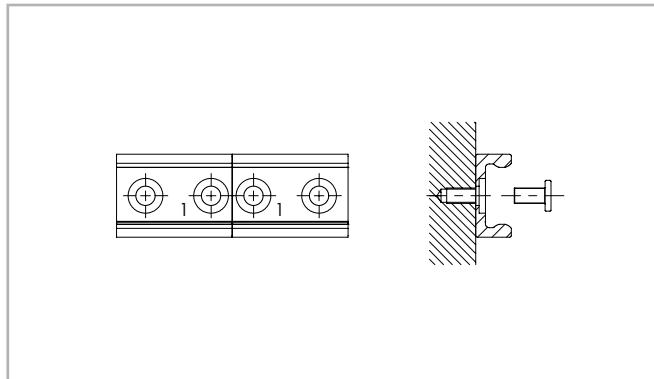

Fig. 80
- (1) Fix the individual rails on the mounting surface by tightening all screws except for each last one on the rail joint.
(2) Install the end fixing screws without tightening them (see fig. 80).